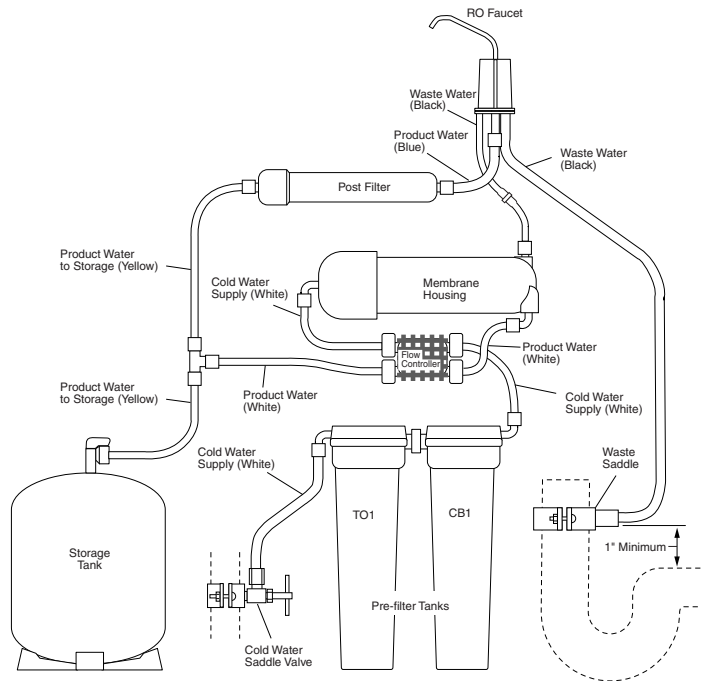

Figure 5: Tubing Layout w/o TDS Monitor
- Connect the free end of the 1/4" black tube out of the faucet to the compression fitting coming straight out of the RO membrane housing (see Figure 5).
2. Hook up the system as illustrated in Figures 5 and 6 and as indicated in the instructions. See the owner's manual.